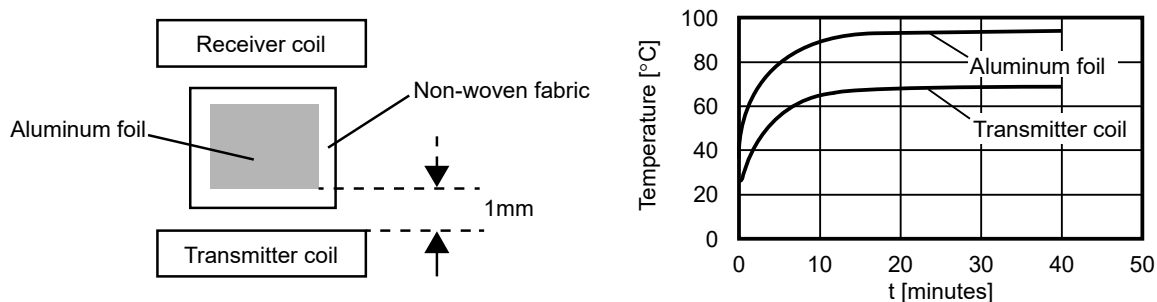

Figure 34
**Figure 34** shows the temperature increases of the aluminum foil and transmitter coil when a piece of aluminum foil is wrapped in high heat resistant non-woven fabric to suppress heat dissipation and placed at a distance of 1mm from the transmitter coil.